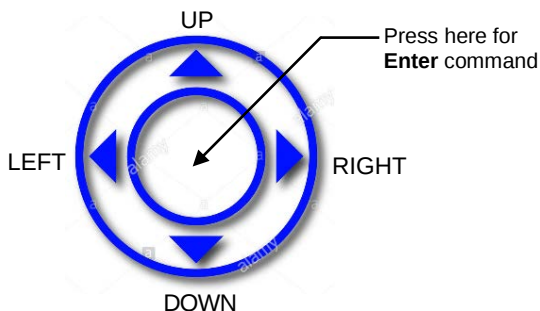

FIGURE 6: JOYSTICK
6.3 Meter Process Information (PI) screens
Based on meter configuration, different parameters may be displayed in the Process Information (PI) screen by moving the control joystick (see **Figure 6) Up or Down (DN)**). Process Information screens can be configured to be static or dynamic (see **Section 6.4.13.2** “Display and Process Information (PI) Screens”). Using PI Screen Mask settings, the user can enable (unmask) or disable (mask) up to 6 different process information combinations.